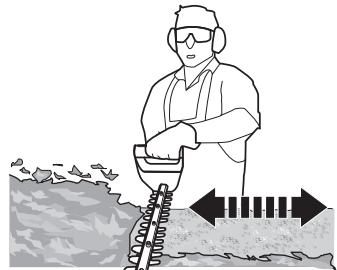

Fig. 8
9. Cut in a number of stages to achieve a better result rather than trying to cut in one go if the area being cut is particularly long (Fig. 8); smaller cuttings will allow for easy composting.